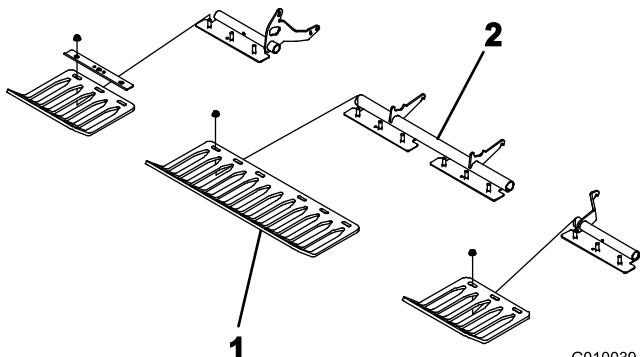

**Figure 23**
2. Mount a tine holder to each tine arm with 3 bolts (1/2 x 1-1/4 inches) (Figure 23). Torque the bolts to 75 ft-lb (101.6 N·m).